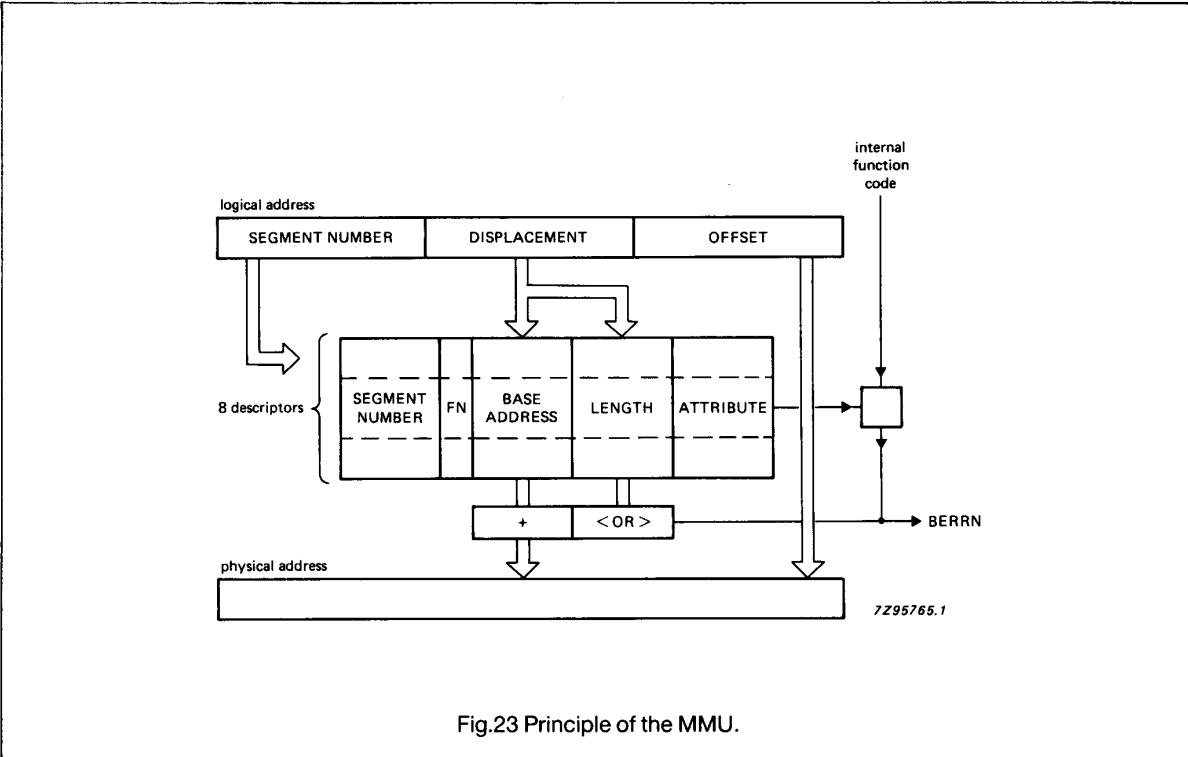

Fig.23 Principle of the MMU.
4. If no violations have been detected, a physical address will be generated. This address is constructed by adding the segment base address, the displacement D and the offset '0' bits. This is illustrated in Fig.23.